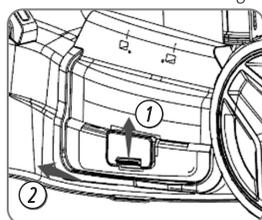
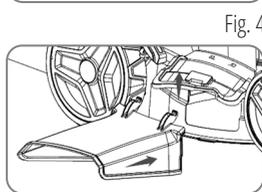

Fig. 3
Fig. 4
Pull up the side discharge lock. Lift the side discharge cover (Fig. 3) and hang upside down the side discharge outlet onto the spindle. Put down the side discharge cover and press well the side discharge outlet (Fig. 4).
3. Fasten the cord to the handle with a cable clamp (Fig. 3).
1. Clip the grass bag over the metal frame (Fig. 4). Make sure to be secured.